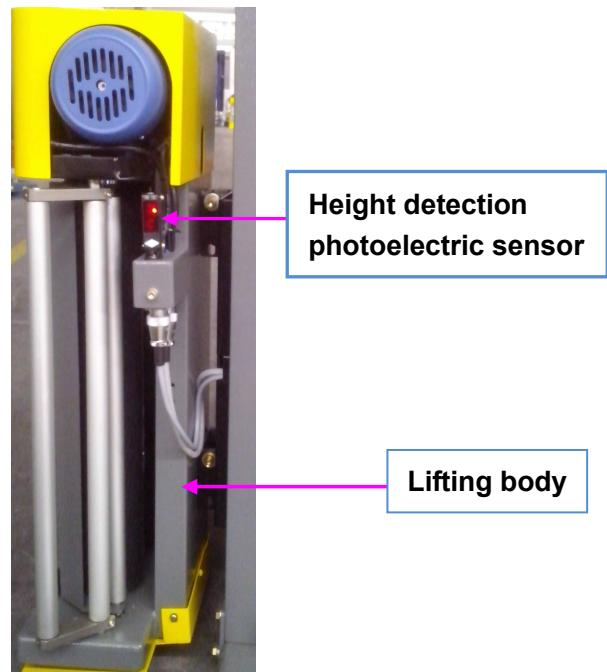

FIG 4-2
- (14) The times of rise and fall: It is used to set the times of rise/fall of a lifting body. If it is set as 1, it means the lifting body will finish a rise and fall;
- (15) Top laps: Set the number of wrapping laps that a lifting body will carry out at the top;
- (16) Height of residual film: When the height measurement photocell installed on the upper part of the lifting body (see FIG 4-2) cannot detect the object being wrapped, it means the lifting body has risen up to the top of the object being wrapped, at this time, if the "height of residual film" is set to 0 second, the lifting body will immediately stop, with no more film fed; if a certain extra length of stretch film shall be left on the object being wrapped to cover the top of the object, the "height of residual film" can be set to a corresponding value greater than 1 second according to needs.
- (17) Bottom laps: Set the number of wrapping laps that the lifting body will carry out at the bottom.